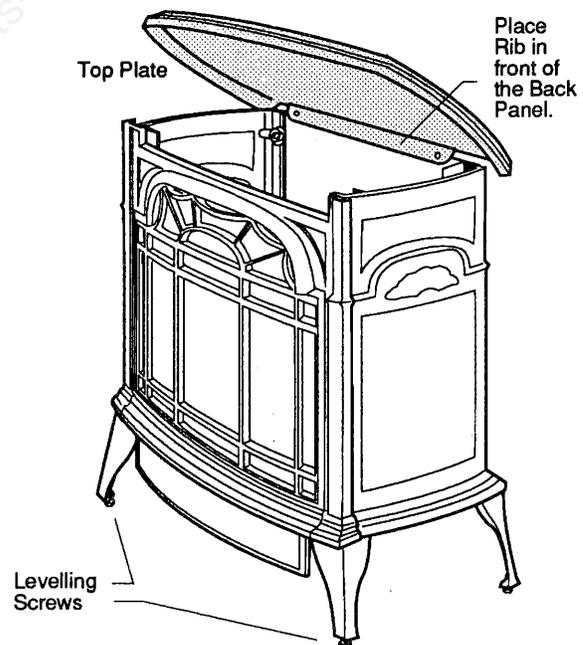

Figure 8. Install the Top Plate.
Step 7. Tilt the Top Plate to engage its rear rib **in front** of the Back Panel and then carefully lower it onto the sides. Fig. 8. The upper edge of the side plates should seat into the channel in the underside of the Top.